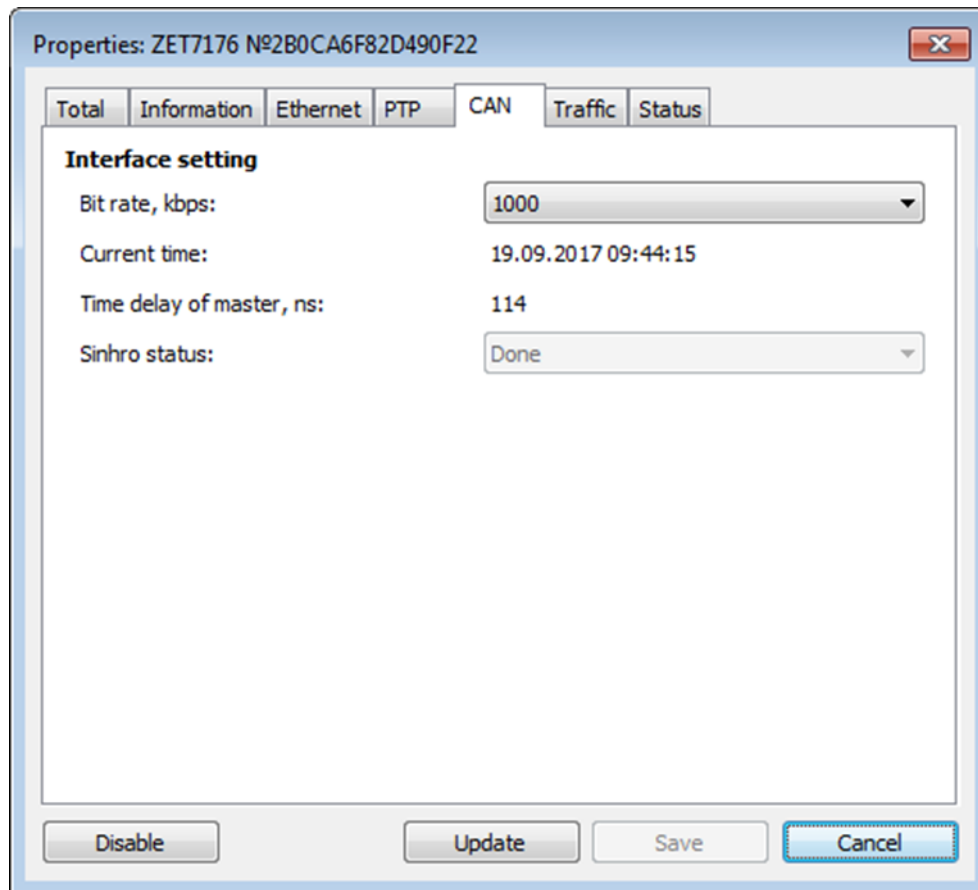

Figure 0.10 «CAN» tab.
- Select the bit rate in accordance with the applicable requirements in the “Bit rate, kbps” field of “CAN” tab (Figure 0.10).